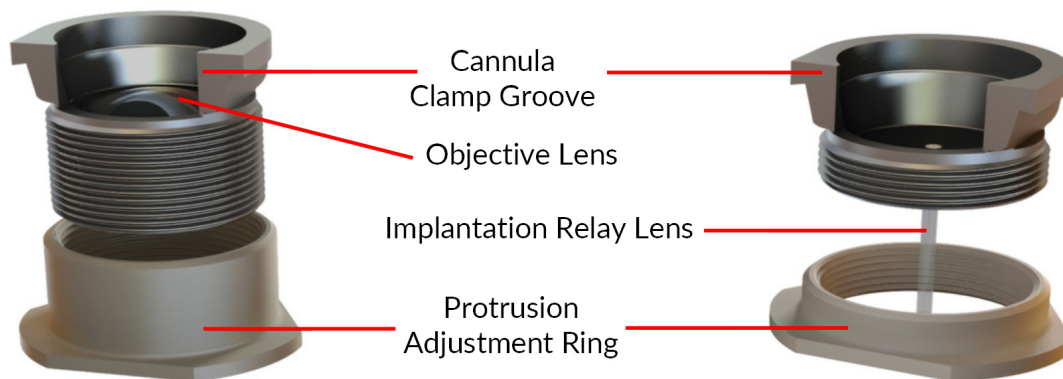

Figure 2.2: Snap-in imaging cannula type S (left) and type L (right)
- The **Implantation relay lens** is found on the *Model L imaging cannula* (Fig. 2.2 right). It is an image guiding gradient-index rod lens that brings the image from inside the brain to the skull surface.
- The **Objective lens** is found on the *Model S imaging cannula* (Fig. 2.2 left). For areas near the brain surface (less than 150  $\mu\text{m}$  below the skull) it provides higher image quality and a larger FOV than the **Model L imaging cannula**.